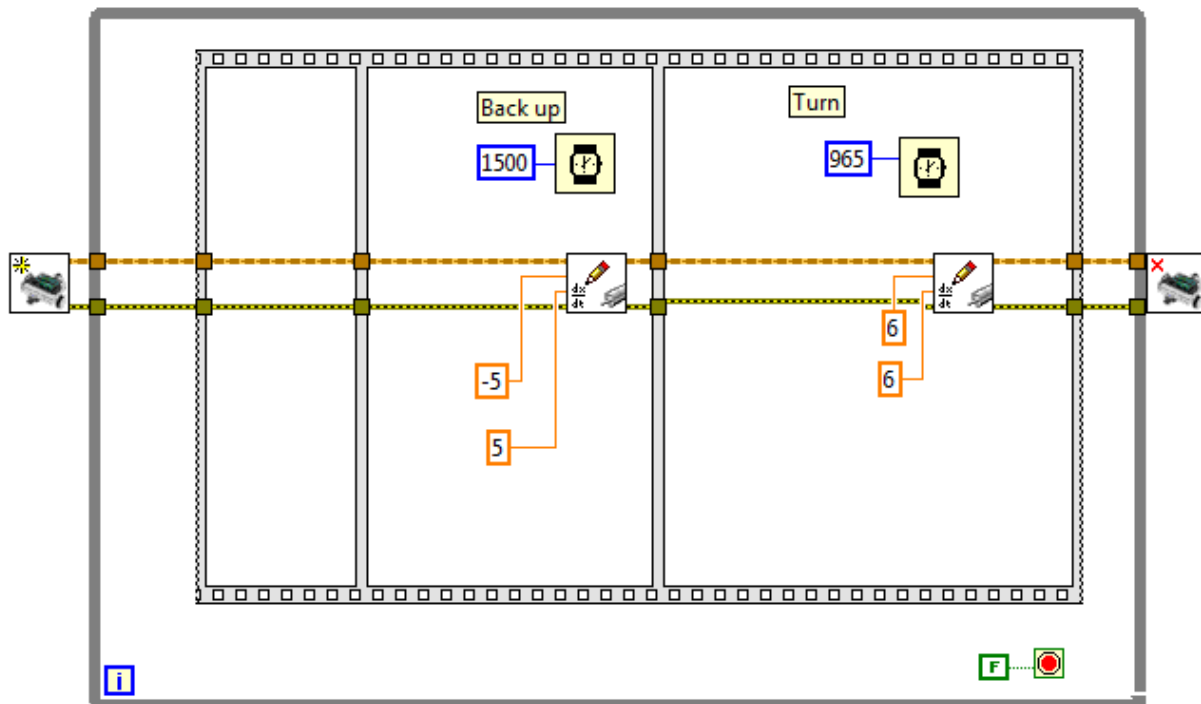
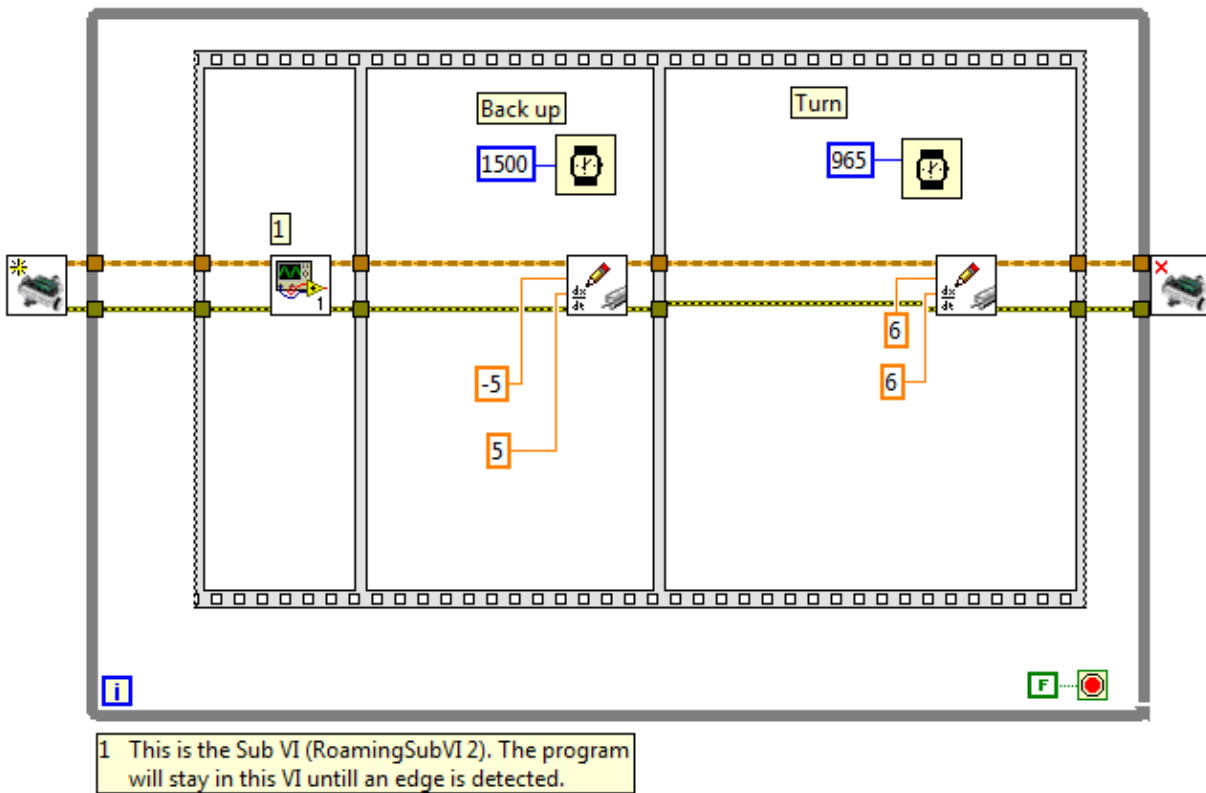

Figure 3.1
Figure 3.9
Step 1: Start LabVIEW(LV) Robotics 2011, and then create a new robotics project. The project explorer window will then pop up. Save this project as Lab3EdgeDetection. Once the project has been created it will automatically build and open the Roaming VI. Minimize this for now; however, we will be altering elements of this code later.
Step 2: From the project explorer window create a new Virtual Instrument (VI). Right click “Starter Kit 2.0 sbRIO (Some IP Address)” on the project tree and select “new” and then VI. Save this VI as RoamingWithEdgeDetection. Two windows will open: the block diagram and the front panel. For the purpose of robotics we will rarely ever use the front panel as the labs in this course require autonomous operation.
Step 3: This is the main VI for this project. In this VI we will make a call to a sub VI we will create later. Build the VI seen in figure 3.1. If you have any difficulty building this VI please reference the tutorial for lab 2. You will notice that there are 3 frames in the flat sequence structure. The First frame was intentionally left empty; we will be adding something to this block later. The Next frame will cause the robot to back up for a short distance. The final frame in the flat sequence structure will turn the robot 90 degrees.
Step 11: Now return to the RoamingWithEdgeDetection VI (figure 3.1). In the first block of the flat sequence (the one we left empty), we will place the RoamingSubVI we created. To do this, right click inside the block of the flat sequence, select “Select a VI...” and then browse your files until you find your roamingSubVI.vi. Place this VI and then connect the wires. See figure 3.9 for reference.